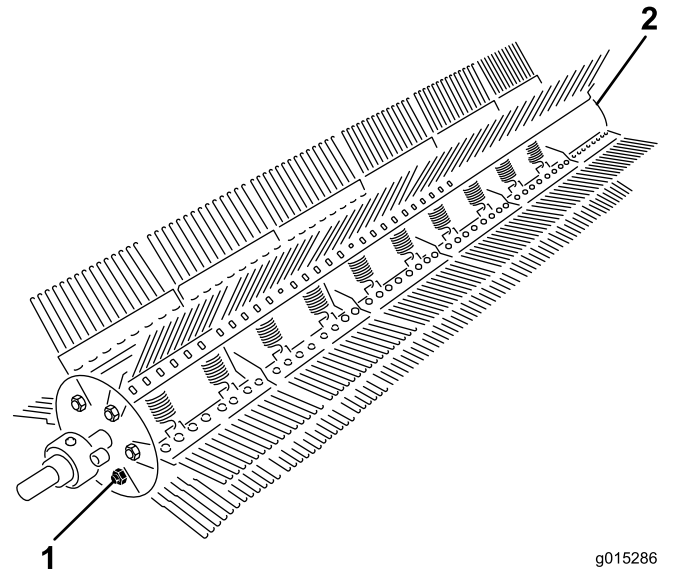

Figure 27
2. Remove the bolt and locknut from 1 end of the rake rod (Figure 27).